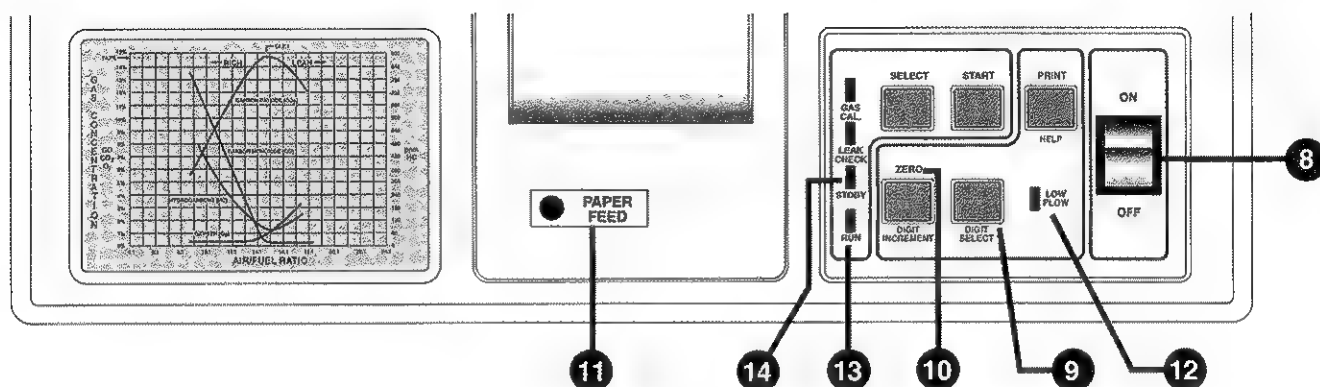

FIGURE 12:
8. ON / OFF (Power) Switch - (see FIGURE 12) Depress the bottom of this rocker switch to turn the analyzer **OFF**, or the top of the switch to turn it **ON**.